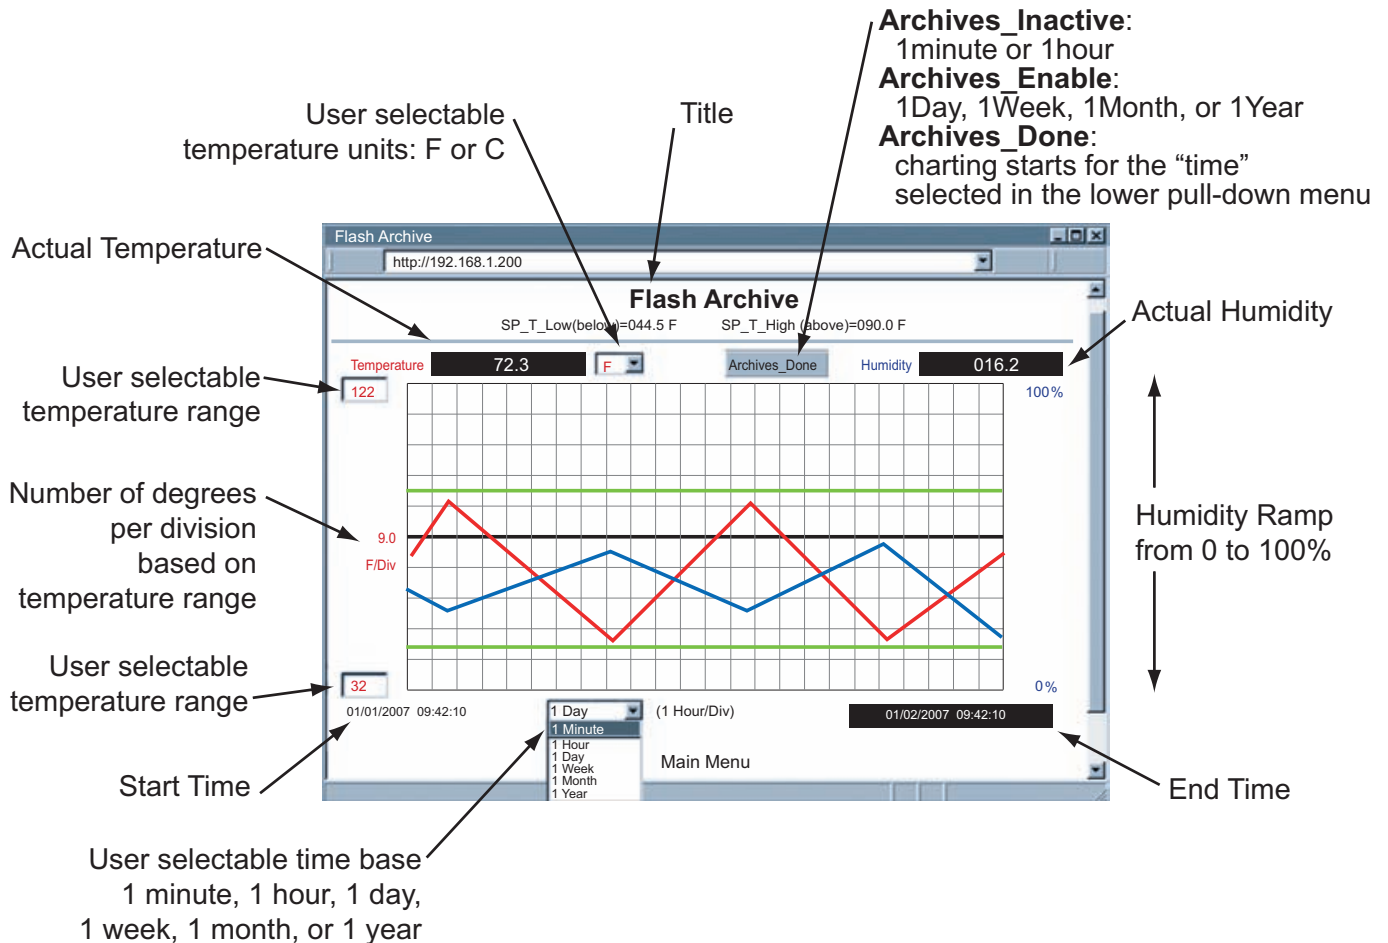

Figure 4.8 Adjustable Chart
- Click on **Chart**, the following page (**Figure 4.8**) should appear. The Java™ Applet graph displays Temperature and Humidity values which can be charted across the full span (-40 to 124°C, and 0 to 100% RH) or within any narrow range (such as 20 to 30°C). The time-base can display one minute, one hour, one day, one week, one month or one year.